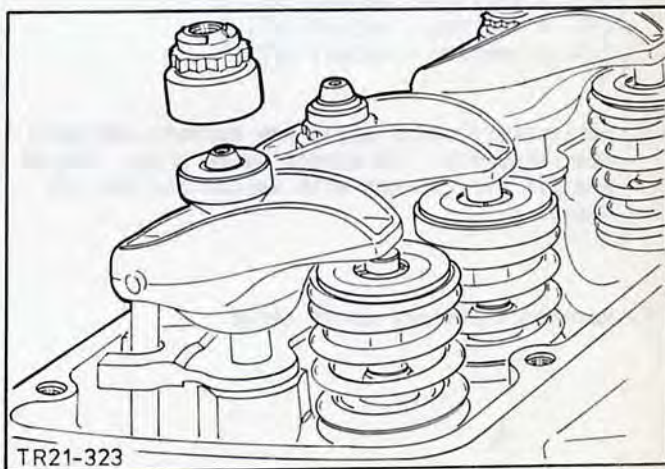

Fig.93. Rocker arm with rocker guide and adjusting nut.
7. Install push rod guide plates and rocker arms complete with rocker guide and adjusting nut, Fig.93.